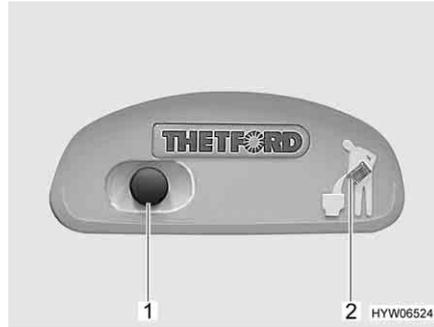
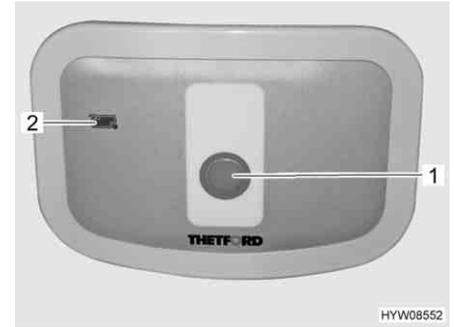

Fig. 224 Flush button/indicator lamp
Fig. 225 Flush button/indicator lamp
- For flushing, press the blue flush button (Fig. 224,1 or Fig. 225,1).
The indicator lamp (Fig. 224,2 or Fig. 225,2) lights up whenever the sewage tank has to be emptied.